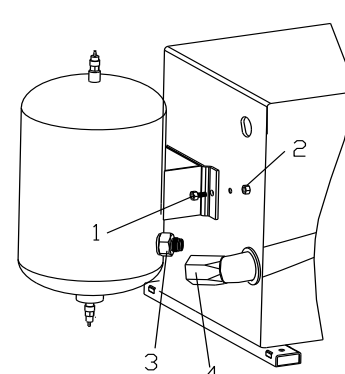

Fig 4
- 1) Unscrew the left cover, fix air tank with machine body by bolt(1) and nut(2)
- 2) Fix metal pipe (4) with connector (3), make sure there is no air leakage, shown as Fig 4.